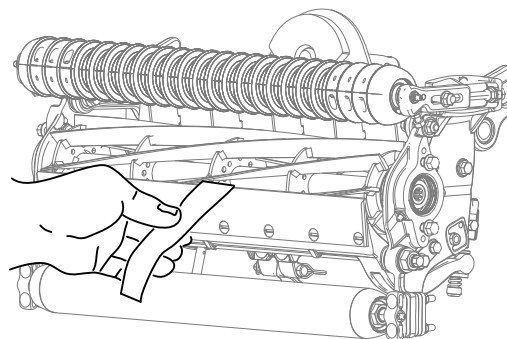

Figure 13
10. Test the cutting performance by inserting a long strip of cutting performance paper (Toro Part No. 125-5610) between the reel and the bedknife, perpendicular to the bedknife (Figure 13). **Slowly** rotate the reel forward; it should cut the paper.